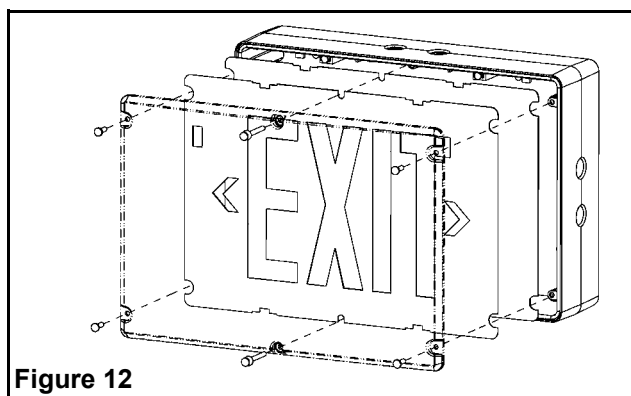

Figure 12
6. Install the lens by using the 4 short and 2 long tamper-proof screws (see fig.12).